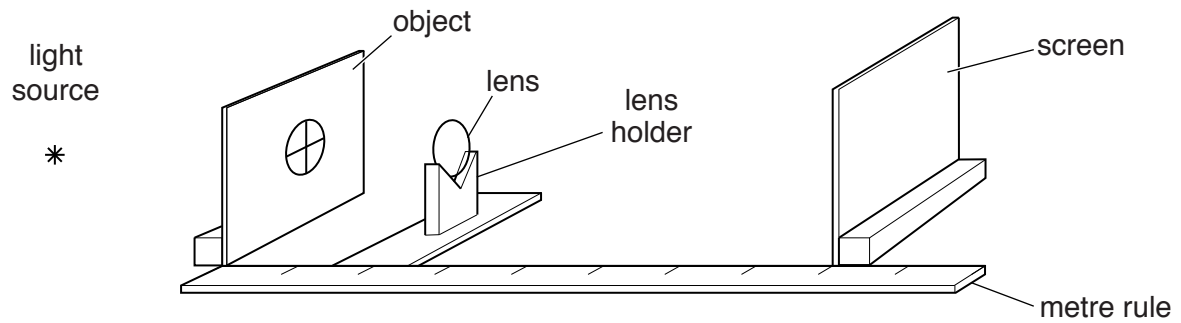

Fig. 4.1
5. The centre of the object, the light source and the centre of the lens when it is supported in the holder should all be at the same height above the bench. The **candidate** will set up the arrangement shown in Fig. 4.1.